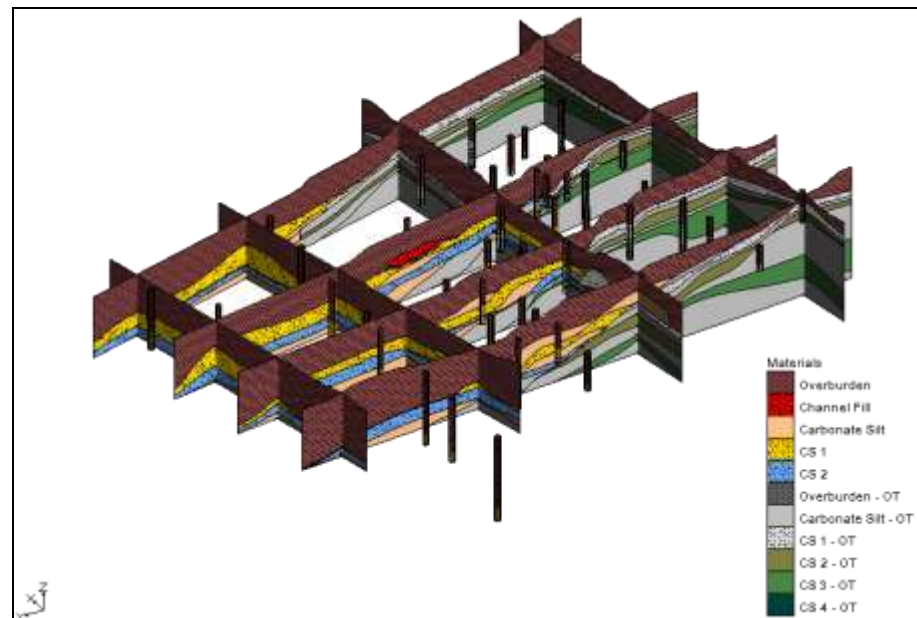

Figure 21 Boreholes and cross sections
8. Select "stratigraphy.gpr" and click **Open** to import the file and close the *Open* dialog. The Graphics Screen will now appear similar to Figure 21. Boreholes and cross sections will be visible.